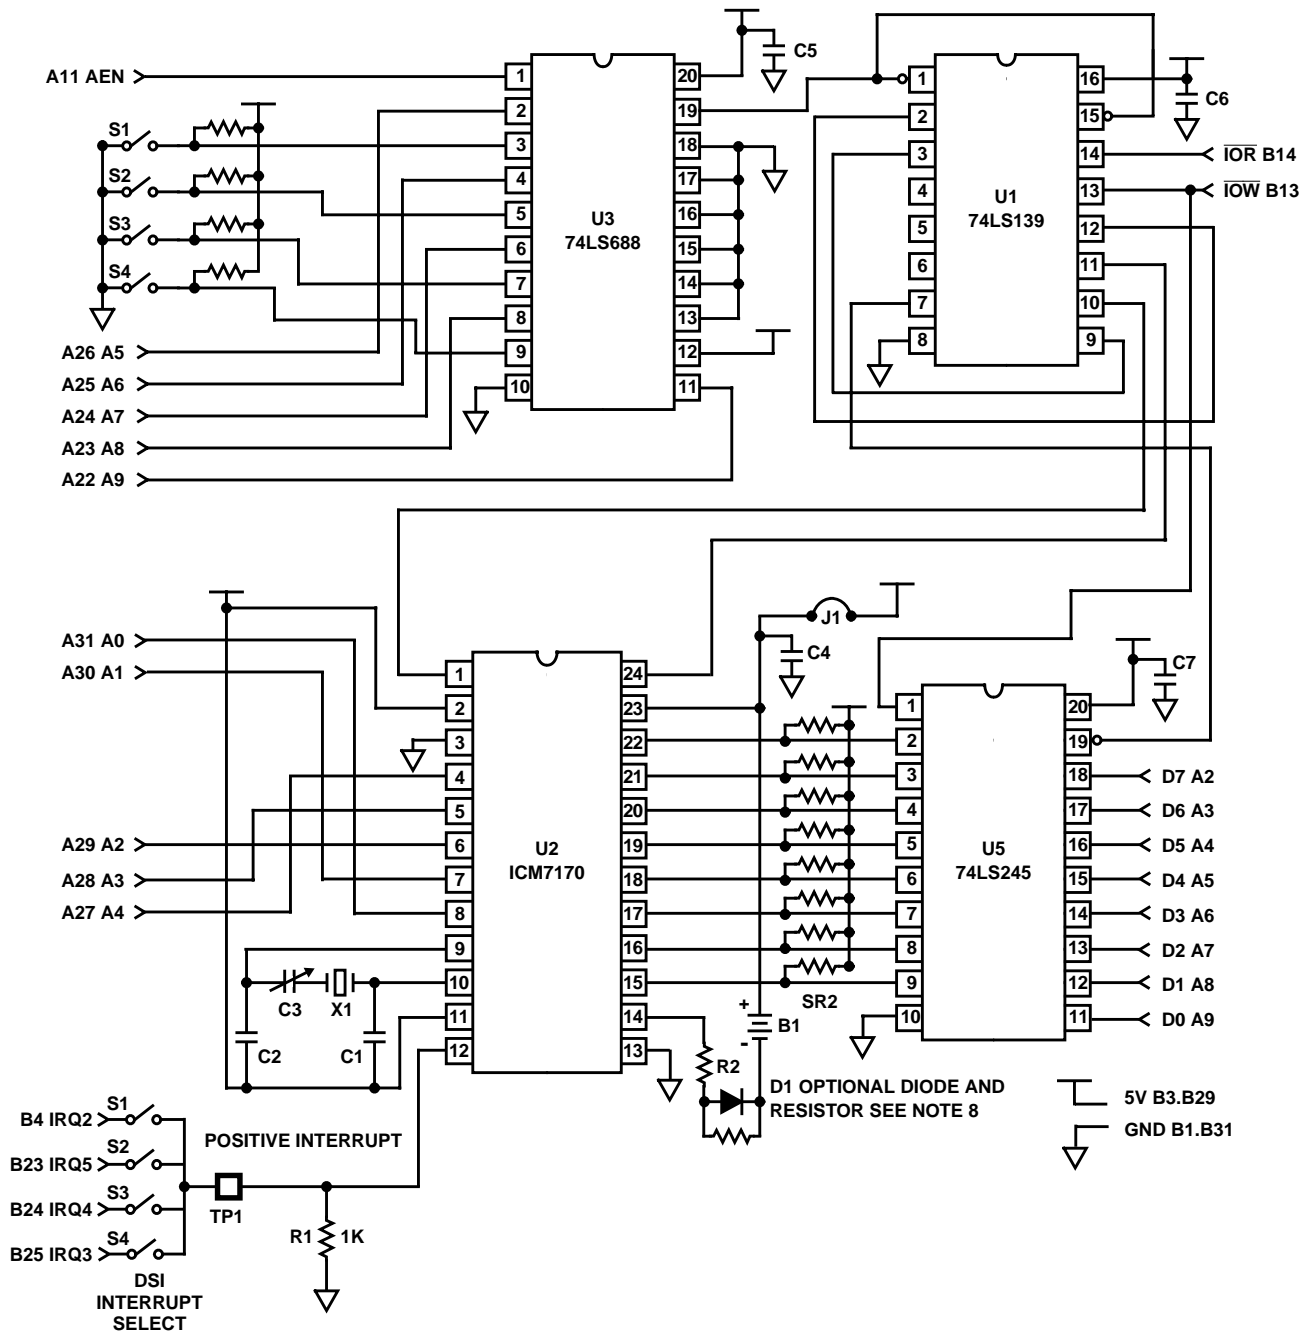

FIGURE 9. IBM PC INTERFACE FOR ICM7170Y
Figure 9 shows the schematic of a board that has been designed to plug into an IBM PC/XT (Note 1) or compatible computer. In this example \overline{CS} is permanently tied low and access to the chip is controlled by the \overline{RD} and \overline{WR} pins. These signals are generated by U1, which gates the IBM's \overline{IOR} and \overline{IOW} with a device select signal from U3, which is functioning as an I/O block address decoder. DS1 selects the interrupt priority.
8. V_{BACKUP} DIODE - Lithium batteries may explode if charged or if discharged at too high a rate. These conditions could occur if the battery was installed backwards or in the case of a gross component failure. A 1N914-type diode placed in series with the battery as shown in Figure 9 will prevent this from occurring. A resistor of 2M Ω or so should parallel the diode to keep the V_{BACKUP} terminal from drifting toward the V_{SS} terminal and shutting off ICM7170 I/O during normal operation.